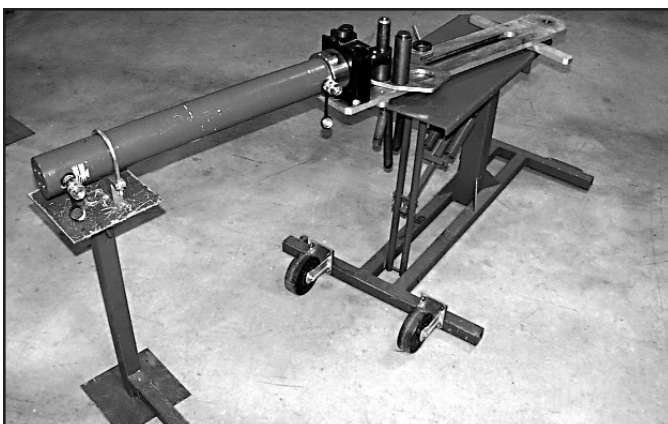

Fig. 1
1. The B400L and B400DL bender assembly is mounted to the top of the BE400 table. Position the bender on the table; make sure the cylinder is at the wheel end of the table. Slide the conduit support extension under the cylinder. Raise the extension up to support the cylinder during assembly installation. Figure 1.